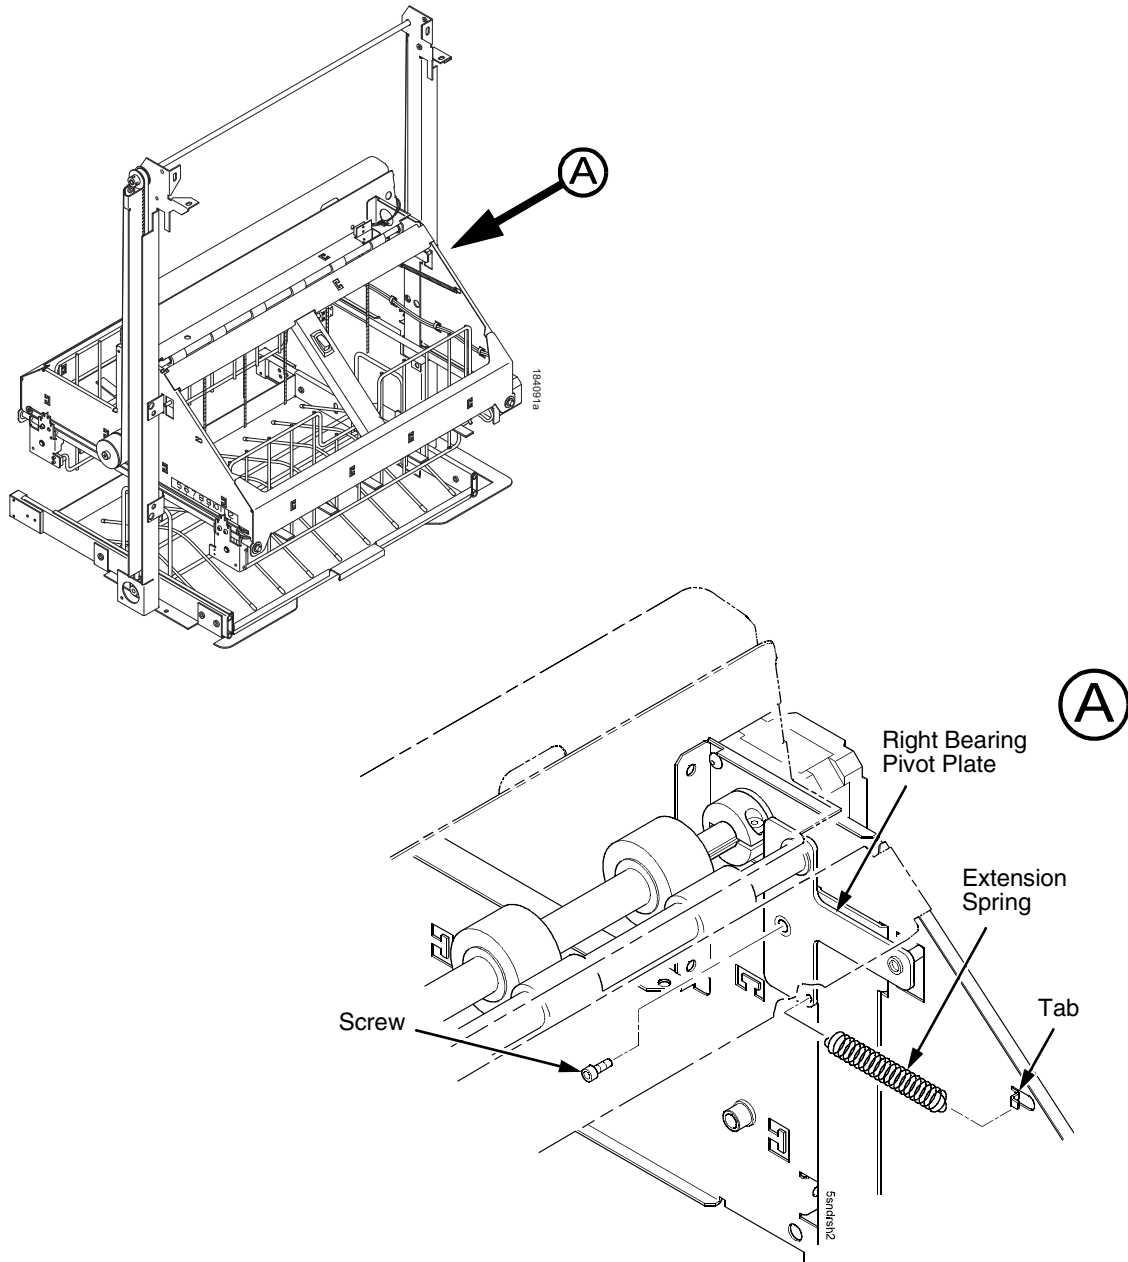

Figure 99. Right Bearing Pivot Plate and Extension Spring
2. Unhook the right bearing pivot plate's extension spring from the tab on the elevator. (Figure 99.)
3. Using an M-2 Allen wrench, remove the screw securing the right bearing pivot plate to the elevator. (Figure 99.)